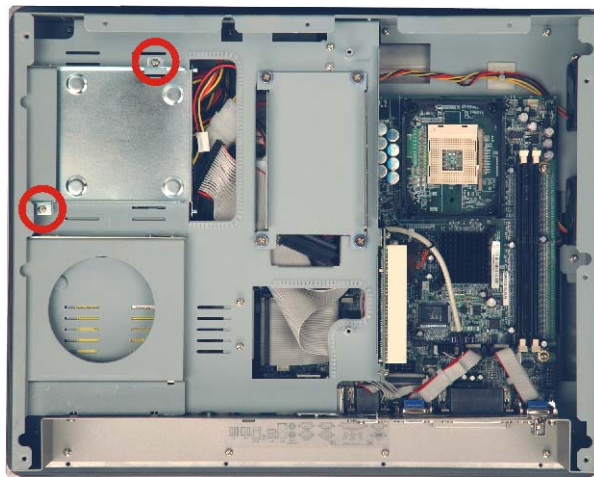

Figure 3-3: FDD Retention Screws
Step 2: The FDD bracket is attached to the elevated platform by two retention screws (**Figure 3-3**). Remove the two retention screws from the elevated platform.